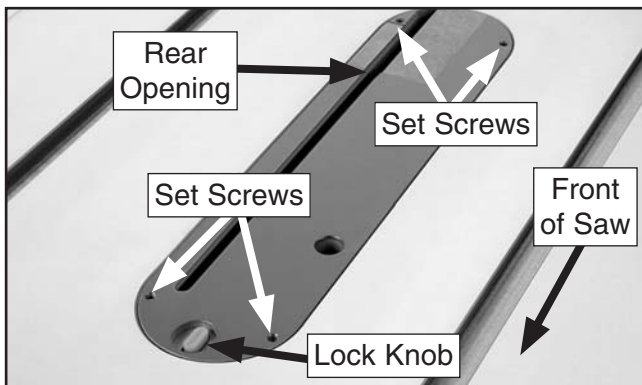

Figure 56. Insert knob in lock position.
3. Install the table insert, as shown in **Figure 56**.
—If you do not require your insert to have a zero clearance fit, especially if you need to make a range of compound cuts, you can modify the insert included with this saw. Follow **Step 7**, then route the underside of the blade-cut slot to the same width as the rear opening (see **Figure 56**).